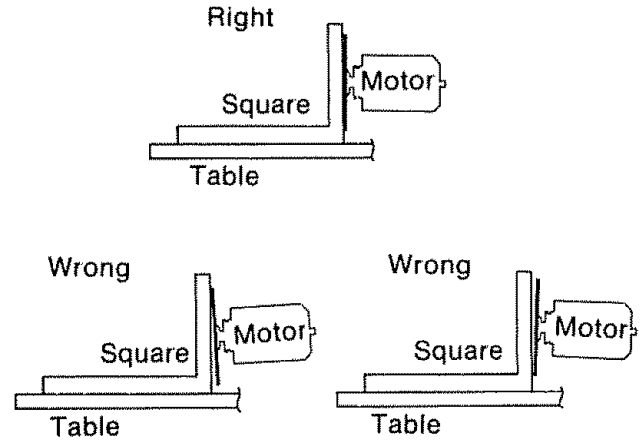

Fig. 73
5. If the square is flush with the *blade* after each rotation, no change is needed. (Figure 73) Go to the next section, or
If there is a gap between the square and the blade after any rotation (Figure 73), go to step 6.